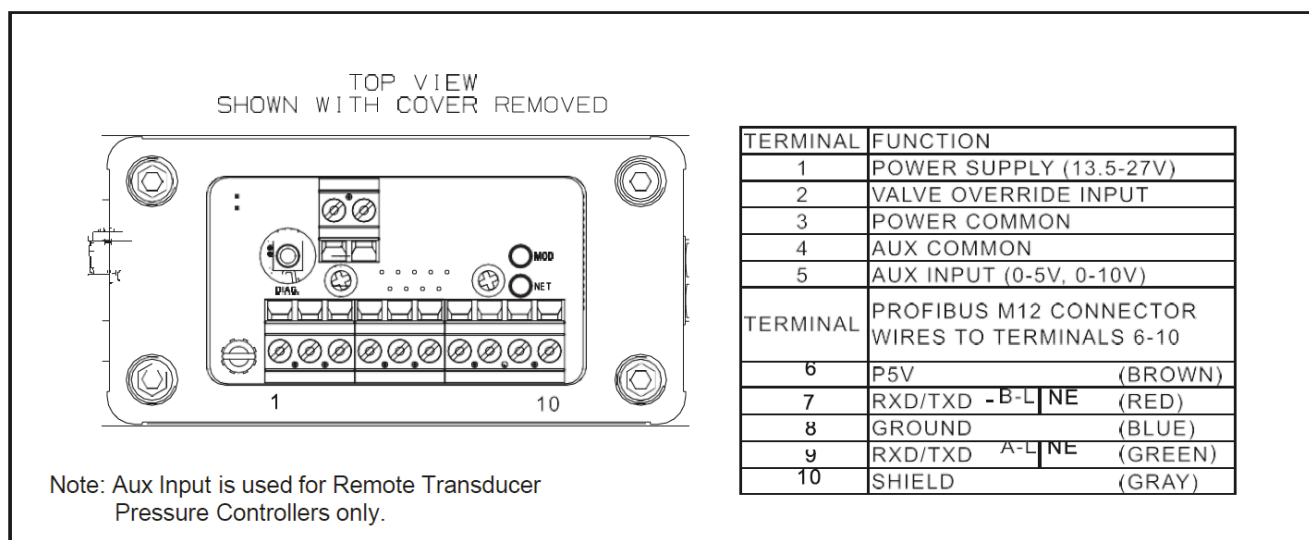

Figure 1-5 SLAMF Series Profibus Terminal Connections
The Brooks SLAMF is now equipped to support the Profibus communication protocol. Profibus is a fieldbus-based automation standard of Profibus and Profinet International (PI). Via a single bus cable, Profibus links controller or control systems with decentralized field devices (sensors and actuators) on the field level and also enables consistent data exchange with higher ranking communication systems. Profibus digital signal connects externally through an M12 connector (Figure 1-5), power via PG11/Conduit (also VOR Analog Signal).
For external connection see Profibus connections on Figure 1-5.